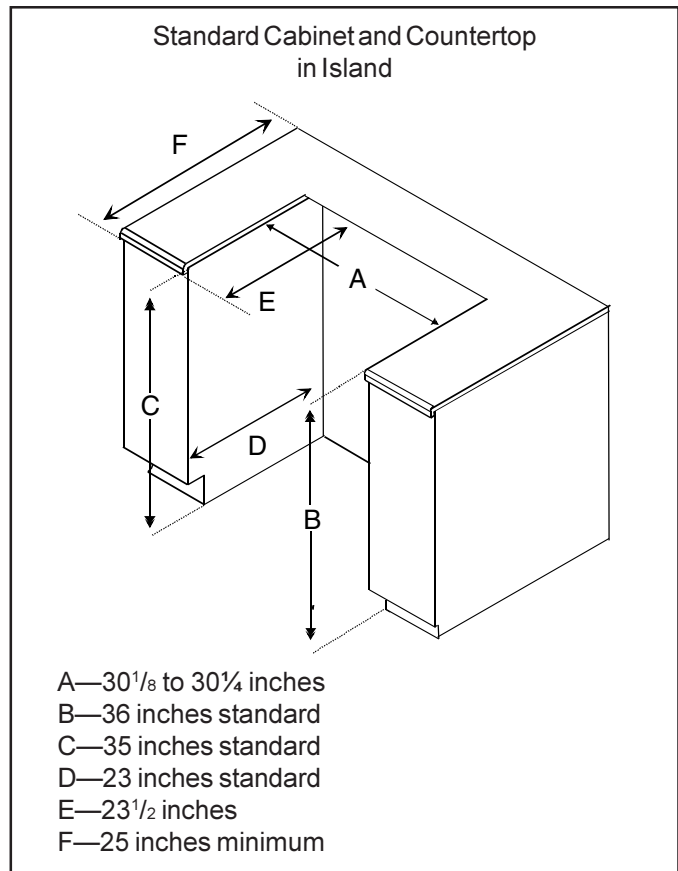

Figure 3
- Drop vertical line from back of cutout and measure  $1\frac{1}{2}$  inches when installed in island. See Figure 3.